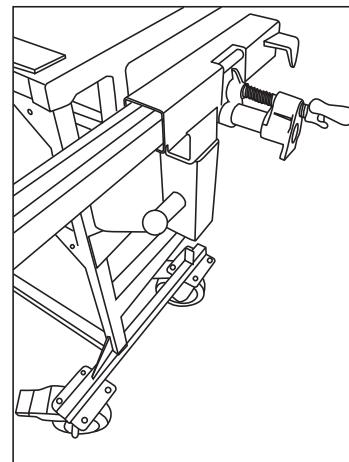

Fig 2
2. To utilize the speed vise (9) assembly for cutting strut. Place either 7/8" or 1-5/8" strut into strut holder. Place strut in the correct position to make desired cut. Tighten the speed vise (9) by cranking the screw handle until tight. Strut is now ready to be safely cut (Fig. 2).